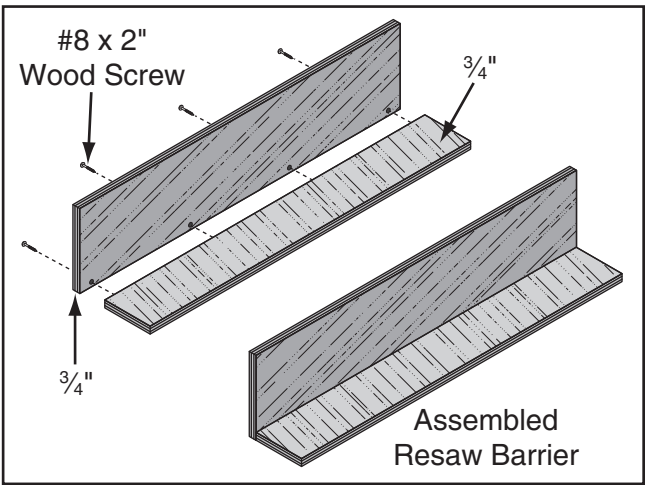

Figure 68. Resaw barrier.
- 3. Glue end of 3" board, clamp boards at a 90° angle with larger board in vertical position, as shown in **Figure 68**, then fasten together with wood screws.